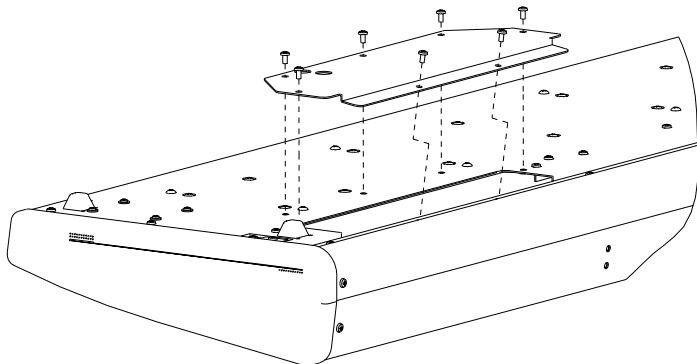

Figure 1 Removing the retaining screws
4. Using a #1 Phillips screwdriver, remove the seven screws that secure the access panel, as shown in Figure 1.